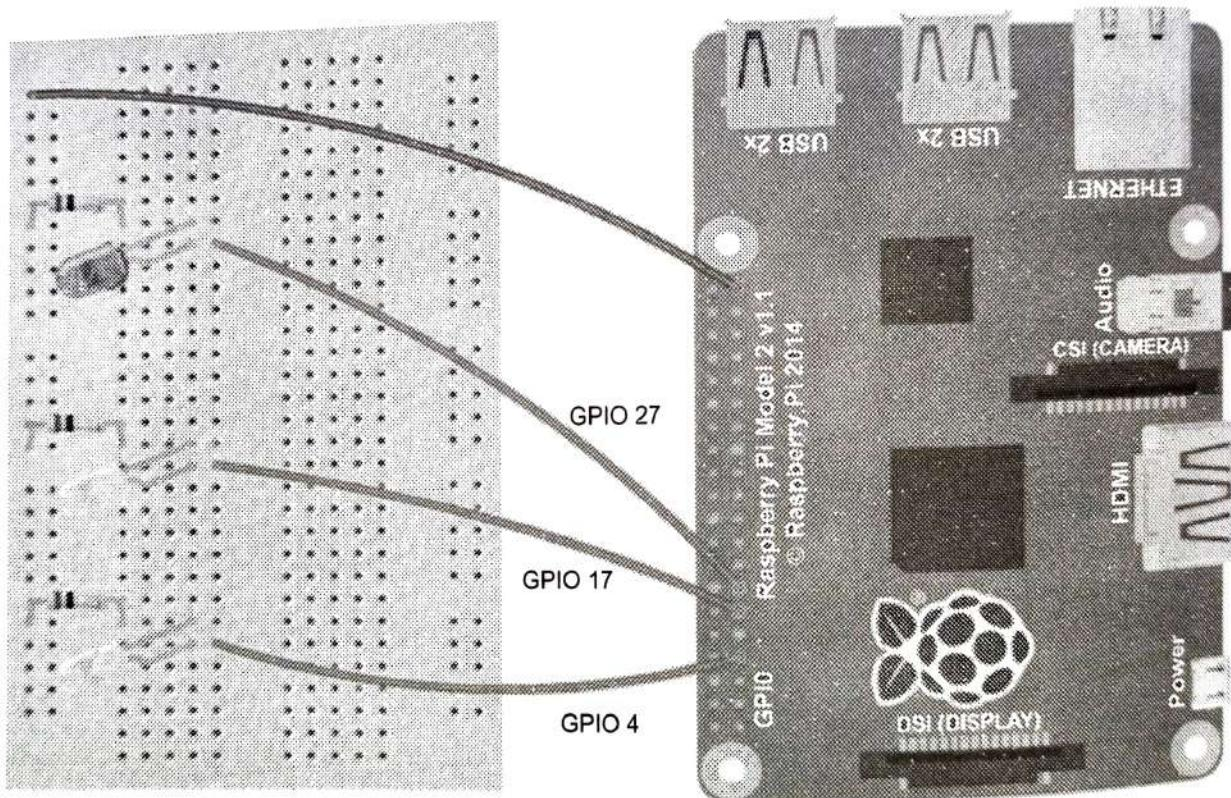

Fig. 6.4.1 : Diagram of connecting LED to Raspberry Pi
- Fig 6.4.1 shows diagram of connecting LED to Raspberry Pi. The LED will initially be off because the GPIO pins are initialized as inputs at power-on.